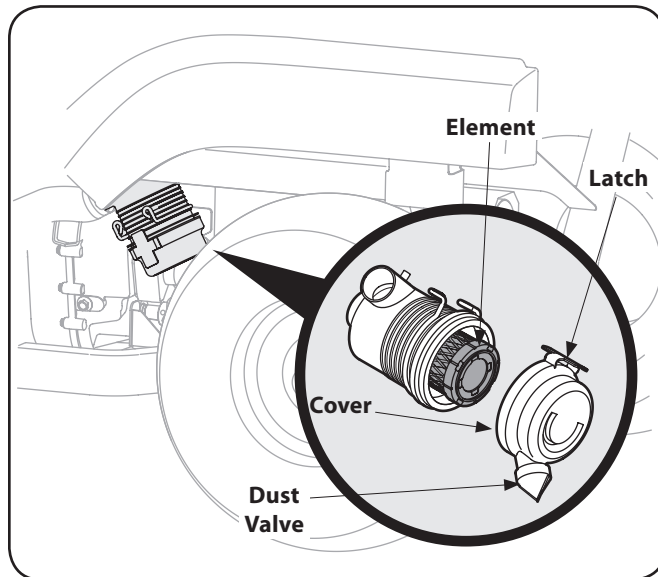

Figure 5-1
3. Pull up on latch and turn counter-clockwise to release air cleaner cover. See Figure 5-1.
IMPORTANT: When reattaching cover, make certain that dust valve is pointing downward. See Figure 5-1 inset.